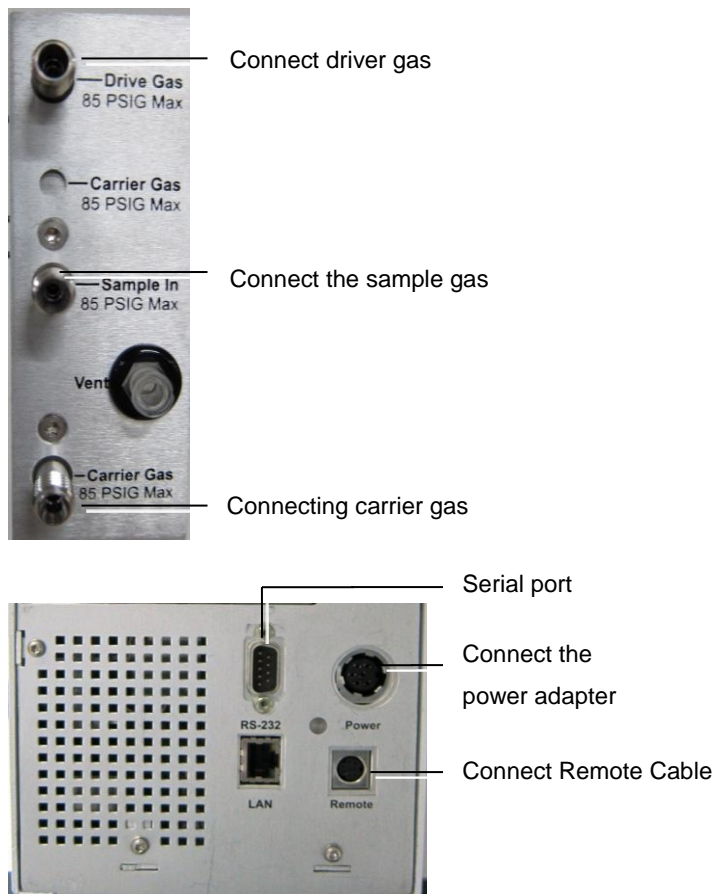

Figure 23 Cable and Gas Line interface of G4370M
3. Connect the Gas Line according to Figure 23.